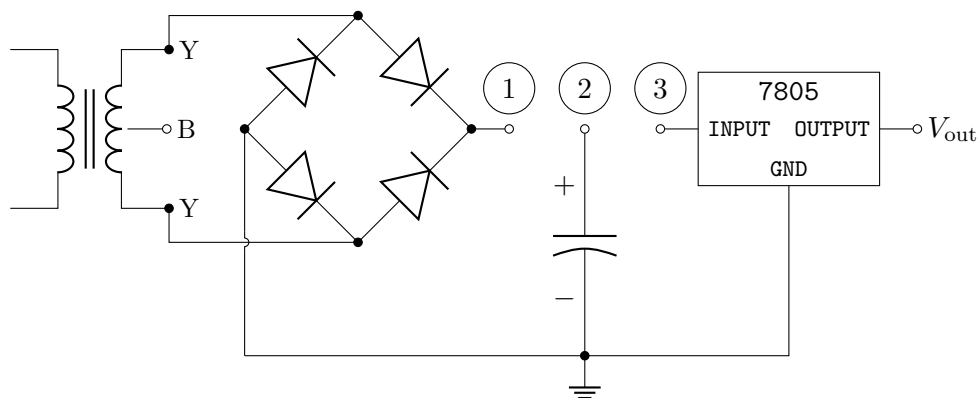

Figure 5: DC voltage supply with full-wave bridge rectifier and 7805 regulation
6. Assemble the DC voltage supply circuit in Fig. 5, which uses a full-wave bridge rectifier and a 3-terminal 7805 voltage regulator integrated circuit (data sheet attached). Repeat the procedure in steps 4(a)-(d) but do not attempt to measure the current into the regulator. Note in your log notebook key differences for how this circuit behaves in comparison to the half-wave rectifier circuit with zener regulation.